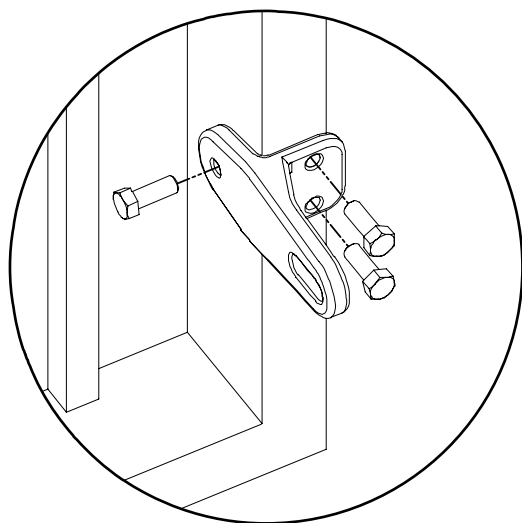
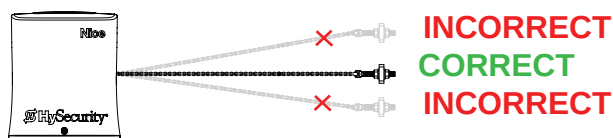
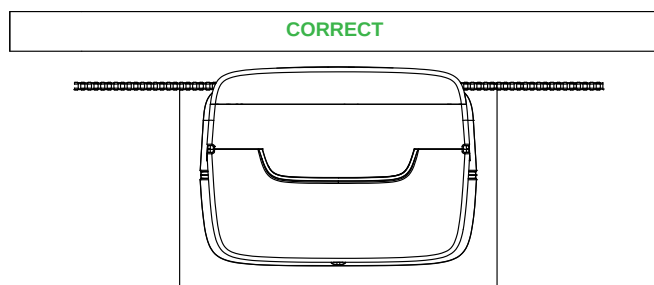
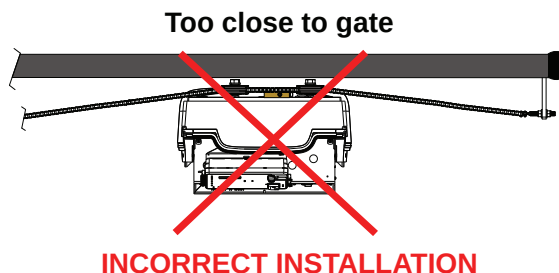

Figure 13. Attach Gate Bracket
Figure 14. Correct Bracket Height
Figure 17. Correct Distance to Gate
Figure 18. Incorrect Distance to Gate
6. Alternatively, weld the gate brackets in place (Figure 13 and Figure 14).
12. Chain must be parallel to ground and gate (Figure 14, Figure 17, Figure 18).